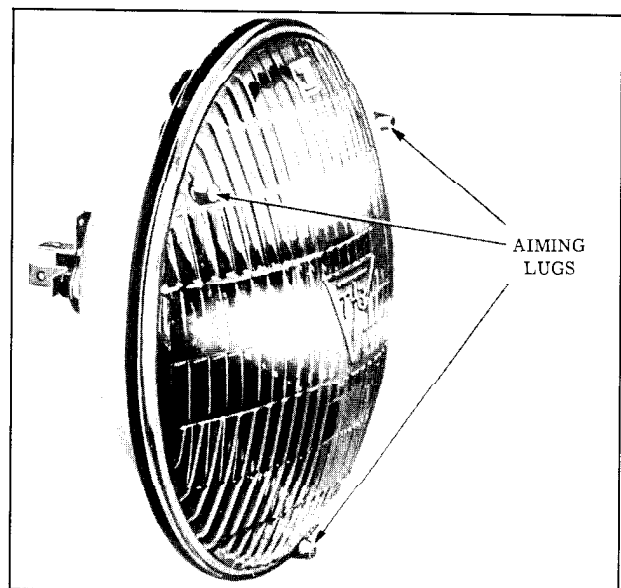
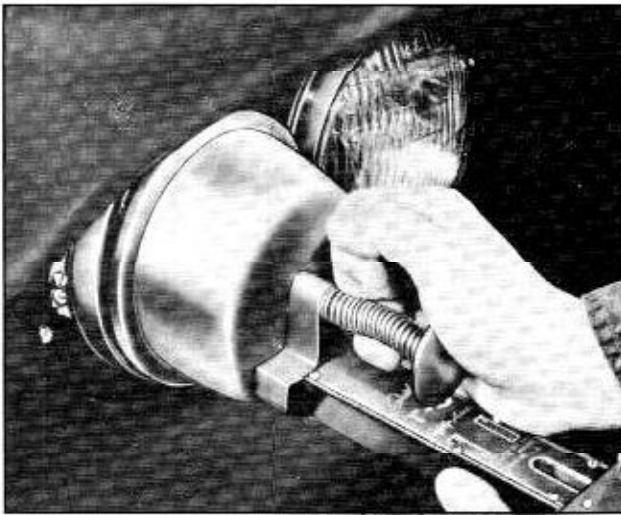

Fig. 13-85 Headlamp Aiming Lugs
Fig. 13-86 Installing Aimer
- Remove headlamp doors and install aimers on each headlamp, making sure aiming lugs of headlamp (Fig. 13-85) engage smooth inner ring of the aimer. To install aimer, press firmly on the knob extending out from the center of the aimer base. (Fig. 13-86) This forces the suction cup into place on the sealed beam unit. It may be necessary to clean headlamp lens to provide an air tight seal for the suction cup.
11. Remove the aimers by pulling on the suction cup tabs through the openings in the aimers (Fig. 13-85) and mount the aimers on the number two pair of headlamp units. Repeat steps 4 through 10.